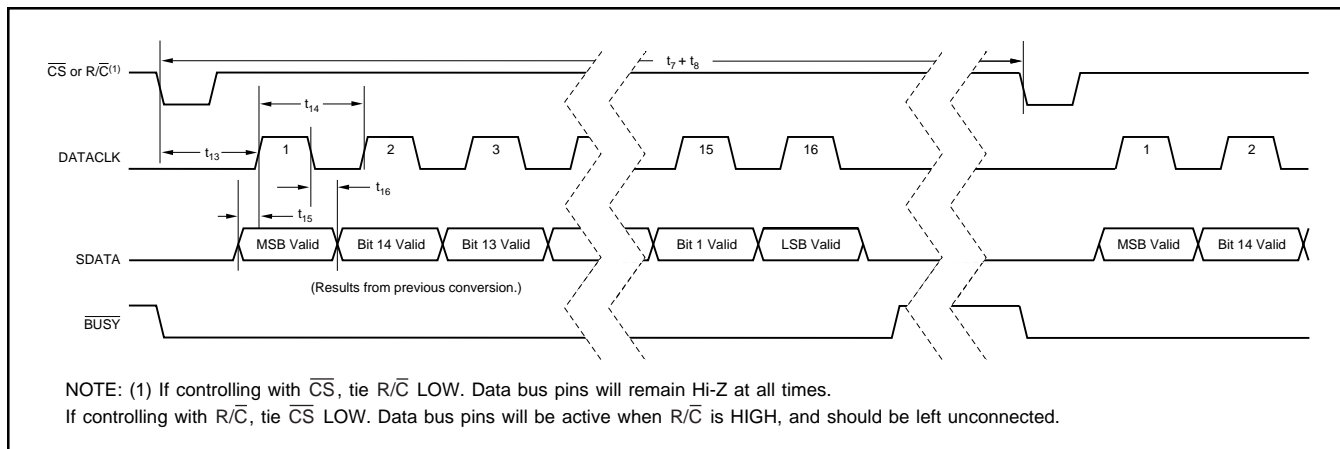

FIGURE 4. Serial Data Timing Using Internal Data Clock (TAG tied LOW).
NOTE: (1) See Figures 4, 5, and 6 for constraints on data valid from conversion 'n – 1'.
To use the internal data clock, tie $\text{EXT}/\overline{\text{INT}}$ (pin 8) LOW. The combination of R/\overline{C} (pin 22) and $\overline{\text{CS}}$ (pin 23) LOW will initiate conversion 'n' and activate the internal data clock (typically 900kHz clock rate). The ADS7807 will output 16 bits of valid data, MSB first, from conversion 'n-1' on SDATA (pin 19), synchronized to 16 clock pulses output on DATACLK (pin 18). The data will be valid on both the rising and falling edges of the internal data clock. The rising edge of $\overline{\text{BUSY}}$ (pin 24) can be used to latch the data. After the 16th clock pulse, DATACLK will remain LOW until the next conversion is initiated, while SDATA will go to whatever logic level was input on TAG (pin 20) during the first clock pulse. Refer to Table VI and Figure 4.